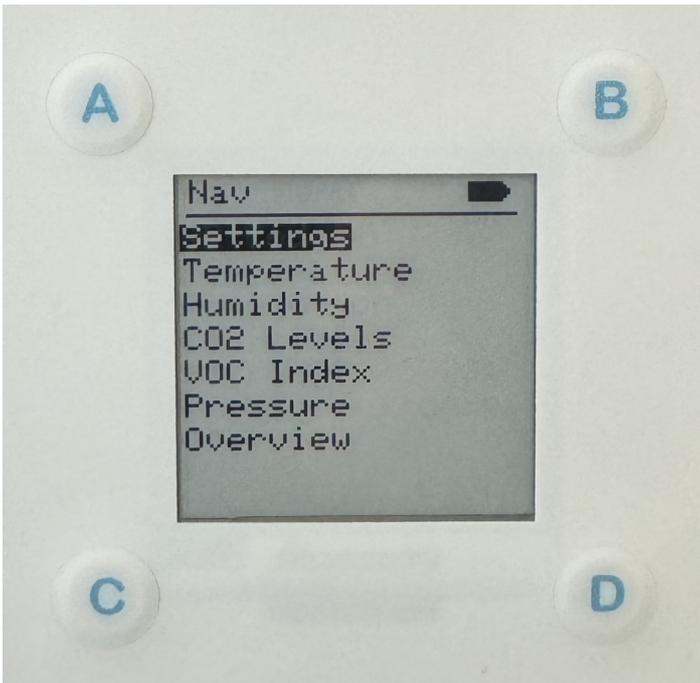

Fig 2: Navigation Screen
- Figure 2 : Navigation Screen